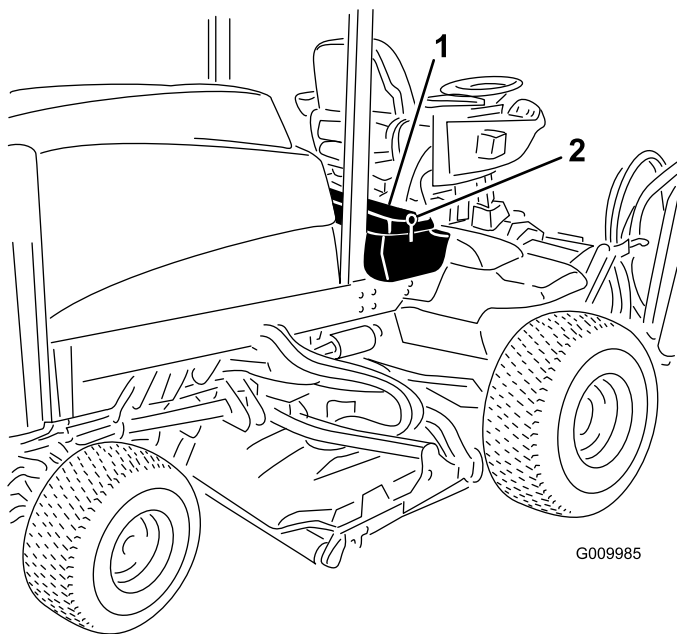
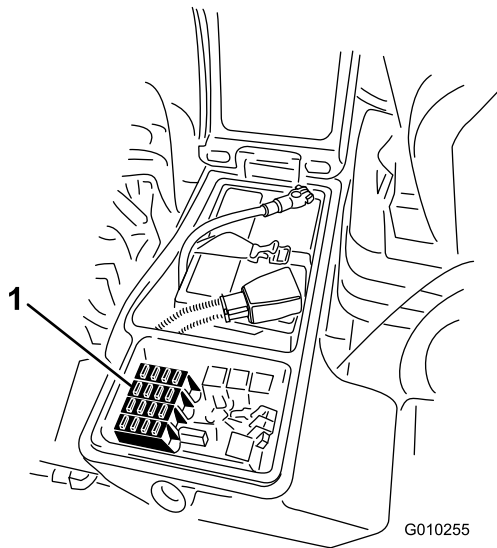

Figure 95
Figure 96
1. Loosen the latch for the cover of the right storage box and raise the cover (Figure 95) to expose the fuse block (Figure 96).
2. Replace the open fuse(s) as needed (Figure 96).
3. Close the cover of the right storage box and secure the cover with the latch (Figure 95).